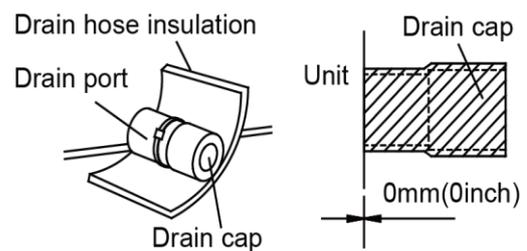

Figure 3-1-14
- (10) The unused drain port also should be insulated properly.(Figure 3-1-14)